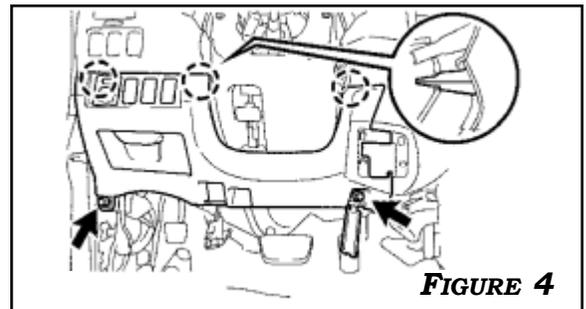

FIGURE 4
4. REMOVE THE 2 BOLTS. DISENGAGE THE 3 CLIPS AND REMOVE THE LOWER NO. 1 INSTRUMENT PANEL FINISH PANEL. DISCONNECT THE CONNECTORS. **FIGURE 4**